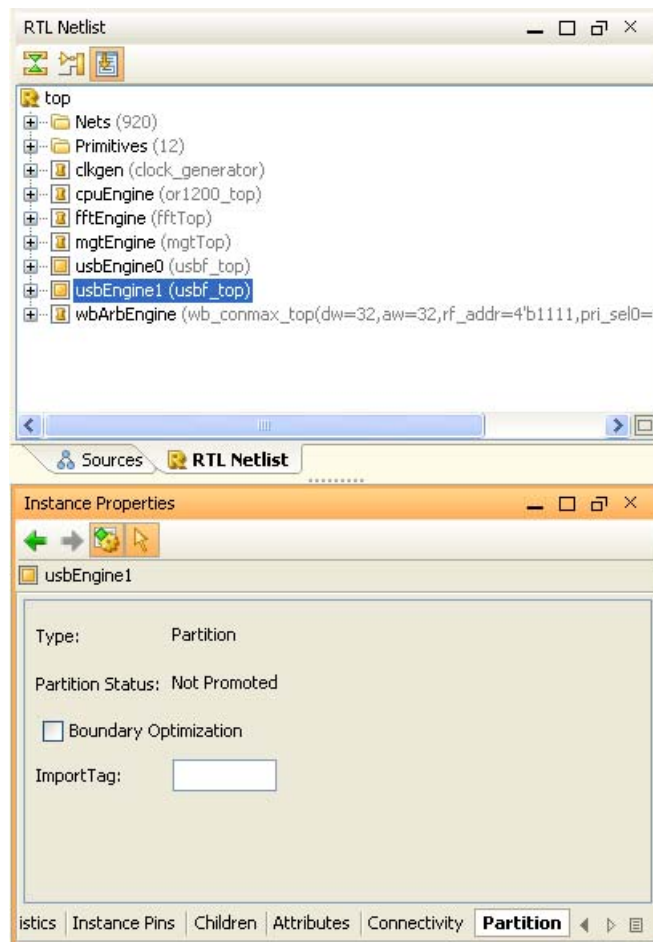

Figure 13-1: Setting Partitions in the Netlist View
3. The icon associated with the instance in the Netlist view changes to highlight that the module is defined as a partition, and a Partition tab appears in the Instance Properties view, as shown in Figure 13-1. The Partition tab reports the locations and dates of each time the Partition was promoted.